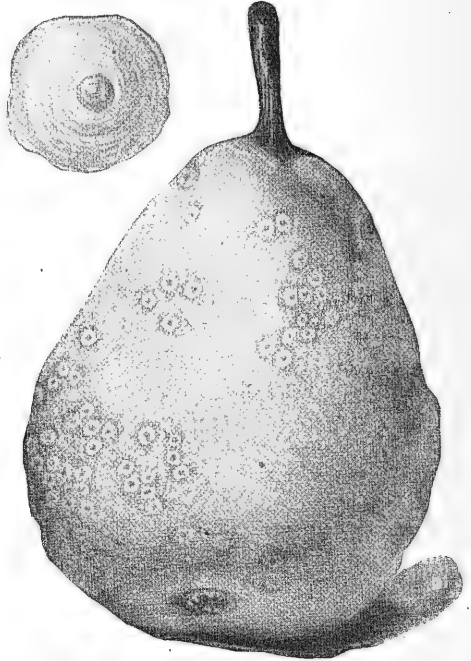

Fig. 139.—Shows San Jose scale on a pear and also an enlarged scale.
- b. It shows in the center of the upper surface a prominence called the nipple, surrounded by a darker colored ring. Fig. 139.